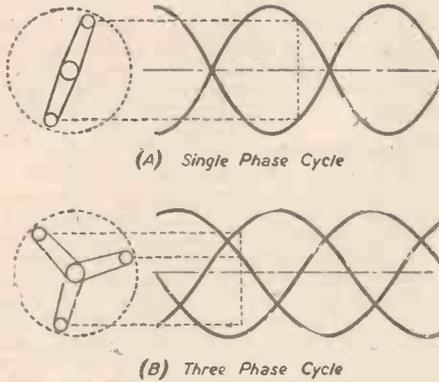

Fig. 1.—Wave forms of alternating current.
Alternating current systems are rather more complicated and difficult to deal with; although A.C. has substituted D.C. in most districts and will eventually supersede it as the grid system develops. A.C. current flows in waves and, as the name implies, it alternates, or changes its direction of flow at periodic intervals. The standard frequency of the grid system is 50 cycles per second, i.e., the current changes its direction 50 times in one second. The shape of the wave is dependent on the generating dynamo, but it generally takes a form similar to that shown in Fig. 1 (A). If its shape is theoretically perfect it forms a pure sine wave, that is, it conforms to a mathematical law and its complex values can be accurately calculated.
Referring to the diagram, Fig. 1 (A), it will be seen that the voltage (and current) have a continuous sequence, rising to a maximum value in one direction of flow in the circuit and then subsiding to zero. This is followed by an alternation, and the current